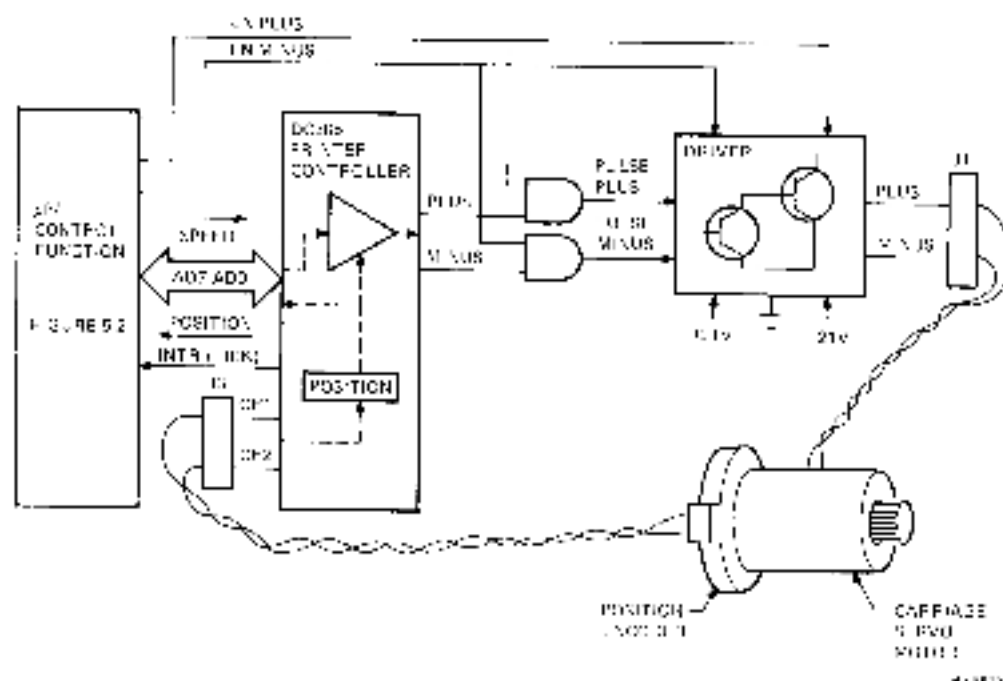

Figure 5-16 Servo/Head Positioning Logic
5.4.4.2 Servo/Head Positioning - The servo/head positioning logic and microcode is responsible for accelerating the printhead, maintaining its velocity during the impact printing phase, and decelerating the printhead when printing is complete. Figure 5-16 shows the logic connected with this process.